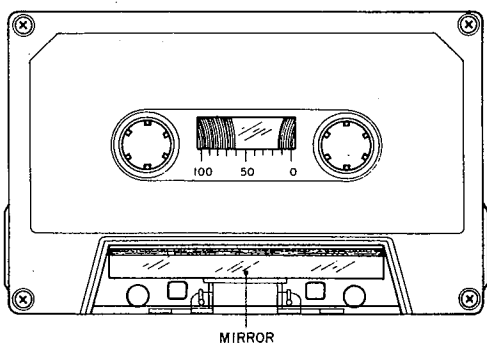

Fig. 23 Mirror Cassette
- 1) When using an ordinary cassette, the tape guides and heads, etc. are not visible. As shown in Fig. 23 use a cassette tape from which part of the cassette case has been cut out and a mirror installed for easy visibility of the head area when making tape guide height adjustment.